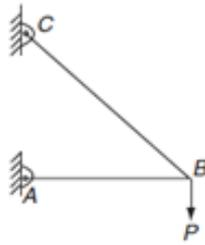

Figure 4 Question 6.
6. Bars AB and BC, each of negligible mass, support load  $P$  as shown in Figure 4. In this arrangement,